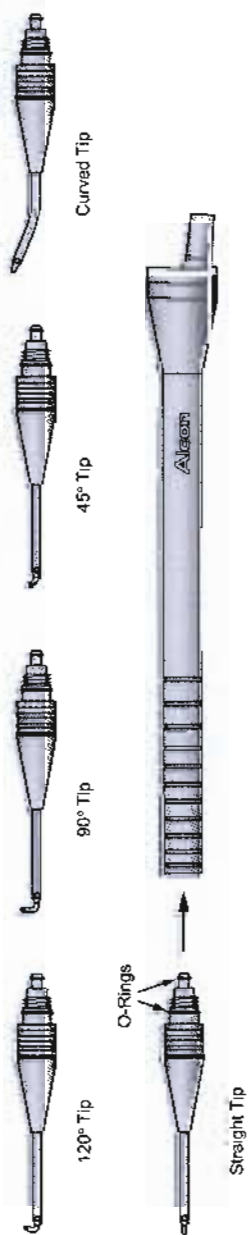

Figure 1-21 *Ultraflow*TM\* IT handpiece and tips
- *Ultraflow*TM\* IT Handpiece and Interchangeable Tips - The *Ultraflow*TM\* IT consists of a handpiece body that accepts interchangeable tips (see Figure 1-21). These tips do not require an adapter or infusion sleeve as they contain a built-in metal infusion sleeve.